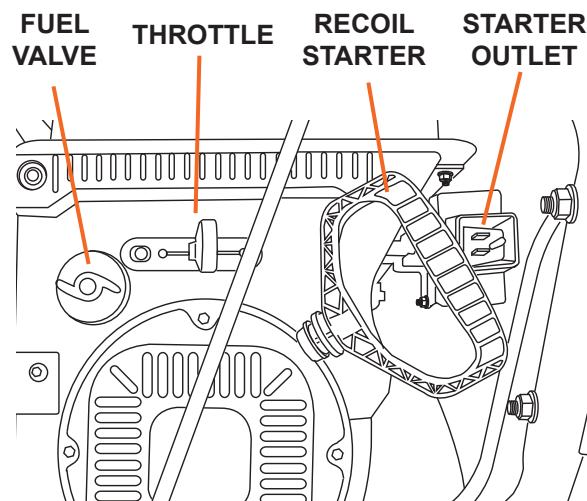

Figure 12
7. Adjust the throttle as needed (see Figure 12).